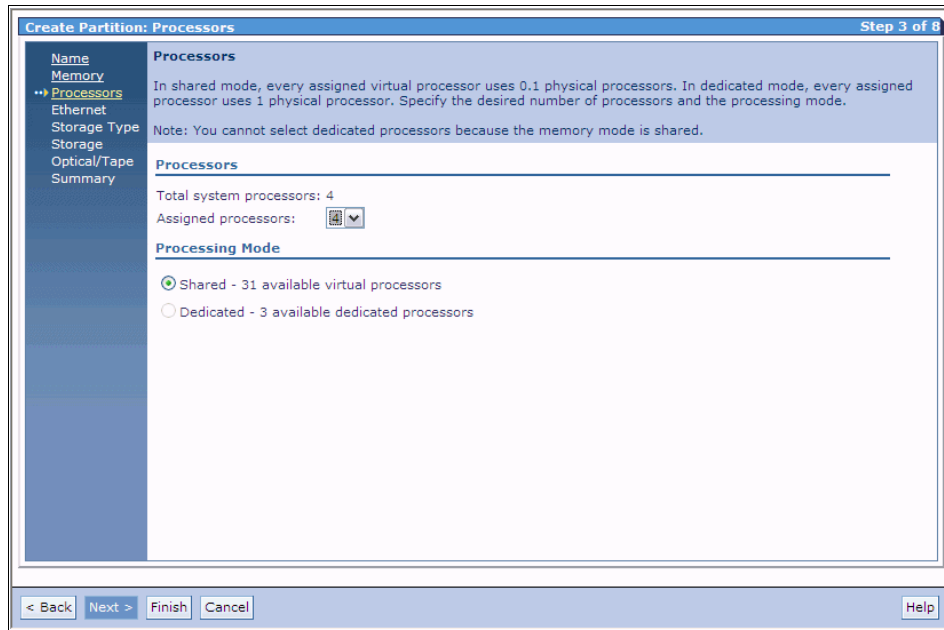

Figure 5-14 Selecting the number of processors in a shared memory partition
3. The next step will be the selection of the number of shared (virtual) processors as shown in Figure 5-14 on page 197. Notice that the dedicated processor option cannot be selected. Use the drop down box to select the number of assigned processors and click the **Next** button.